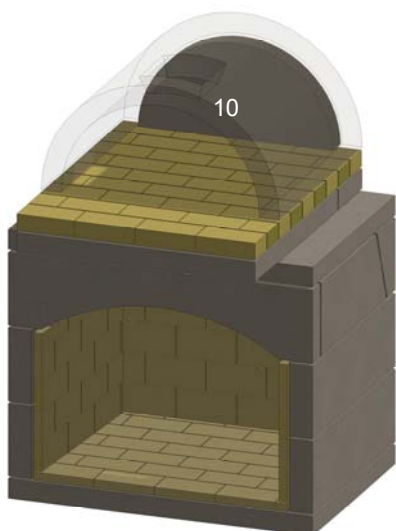

Figure 23. Oven Rear Wall
Q. Install the oven rear wall. Use shims to temporarily hold the wall piece in place while working mortar into the joint using a tuck pointer tool. Completely bed and fill the joint with mortar. See Figure 23.